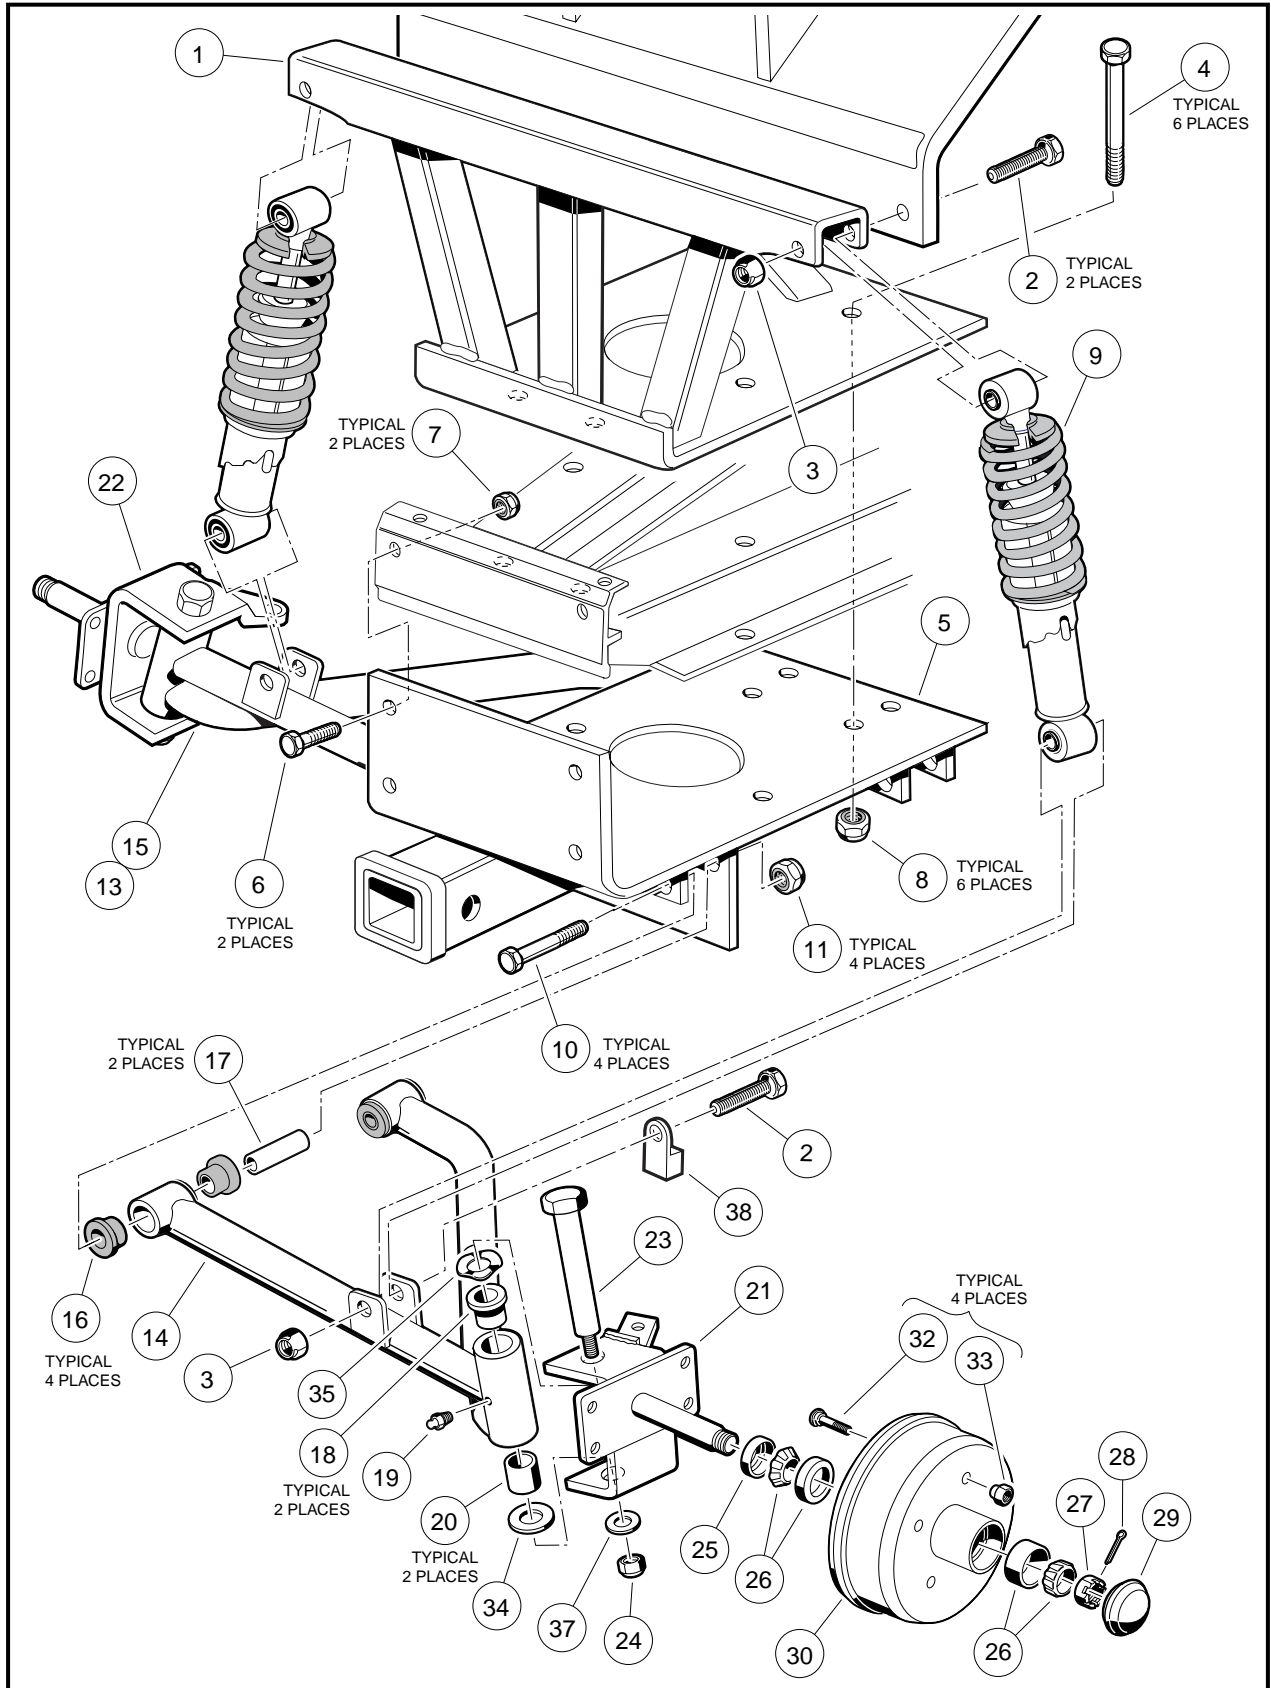

Figure 7-28 Pioneer 1200 Vehicle Front Suspension
5. Remove the nut (24) and washer (37) from kingpin (23) and remove the kingpin (**Figure 7-28, Page 7-15**).
6. Remove the thrust washer (34) (**Figure 7-28, Page 7-15**).
7. Remove the wave washer (35) and inspect it. If the washer is broken or has a wave bottom to wave crest height dimension of less than .040 inch (0.10 cm), it must be replaced (**Figure 7-28, Page 7-15**).
8. Slide the spindle (21) off of the A-arm (14) (**Figure 7-28, Page 7-15**).
2. Inspect the kingpin (23) and spindle (21). If either are worn or damaged, it must be replaced (**Figure 7-28, Page 7-15**).
3. Inspect the bushings (18 and 20) (**Figure 7-28, Page 7-15**). If the bushings are worn or damaged, remove them and press in new ones. **See following NOTE.**
4. Install the spindle (21) onto the A-arm (14) (**Figure 7-28, Page 7-15**).
5. Install the thrust washer (34), wave washer (35) and kingpin (23) (**Figure 7-28, Page 7-15**).
6. Install the washer (37) and a **new** lock nut (24). Tighten to 18 ft-lb (24.4 N·m) (**Figure 7-28, Page 7-15**).
10. Using a grease gun, apply grease to the grease fitting (19) in the A-arm (14) (**Figure 7-28, Page 7-15**). **See Lubrication on page 7-13.**
3. Remove the nut (24) and washer (37) from the kingpin (23) and remove the kingpin (**Figure 7-28, Page 7-15**).
4. Remove the thrust washer (34) (**Figure 7-28, Page 7-15**).
5. Remove the wave washer (35) and inspect it. If the washer is broken or has a wave bottom to wave crest height dimension of less than .040 inch (0.10 cm), it must be replaced (**Figure 7-28, Page 7-15**).
6. Slide the spindle (21) off of the A-arm (14) **(Figure 7-28, Page 7-15)**.
7. Remove the lower shock absorber mounting bolt (2) and nut (3) from the A-arm **(Figure 7-28, Page 7-15)**.
8. Remove the two bolts (10) and two nuts (11) securing the A-arm to the front suspension mounting plate **(Figure 7-28, Page 7-15)**.
1. Prior to installation, inspect the bushings (16) and sleeves (17) in the A-arm and replace them if necessary **(Figure 7-28, Page 7-15)**.
2. Inspect the bushings (18 and 20) **(Figure 7-28, Page 7-15)**. If the bushings are worn or damaged, remove them and press in new ones. **See following NOTE.**
3. Install the A-arm in the reverse order of removal. Tighten the A-arm nuts (11) to 20 ft-lb (27 N·m) **(Figure 7-28, Page 7-15)**.
4. Install the spindle (21) onto the A-arm (14) **(Figure 7-28, Page 7-15)**.
5. Install the thrust washer (34), wave washer (35) and kingpin (23) **(Figure 7-28, Page 7-15)**.
6. Install the washer (37) and a **new** lock nut (24). Tighten to 18 ft-lb (24.4 N·m) **(Figure 7-28, Page 7-15)**.
10. Using a grease gun, apply grease to the grease fitting (19) in the A-arm (14) **(Figure 7-28, Page 7-15)**. **See Lubrication on page 7-13.**
5. Remove the nut (3) and bolt (2) attaching the shock absorber to the shock and gear support (**Figure 7-28, Page 7-15**).